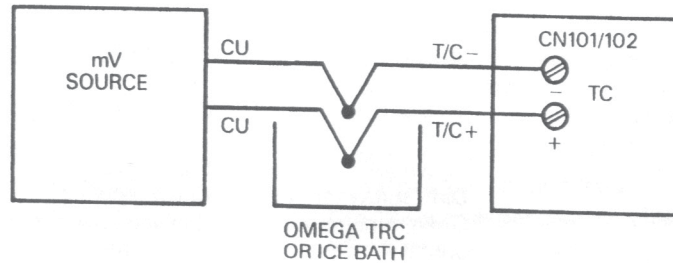

Figure 4-2. Thermocouple Calibration
2. Connect the other end of the wire to the thermocouple signal generator. Select proper cold junction compensation. Refer to Figure 4-2. For RTD version use precision decade resistance box.